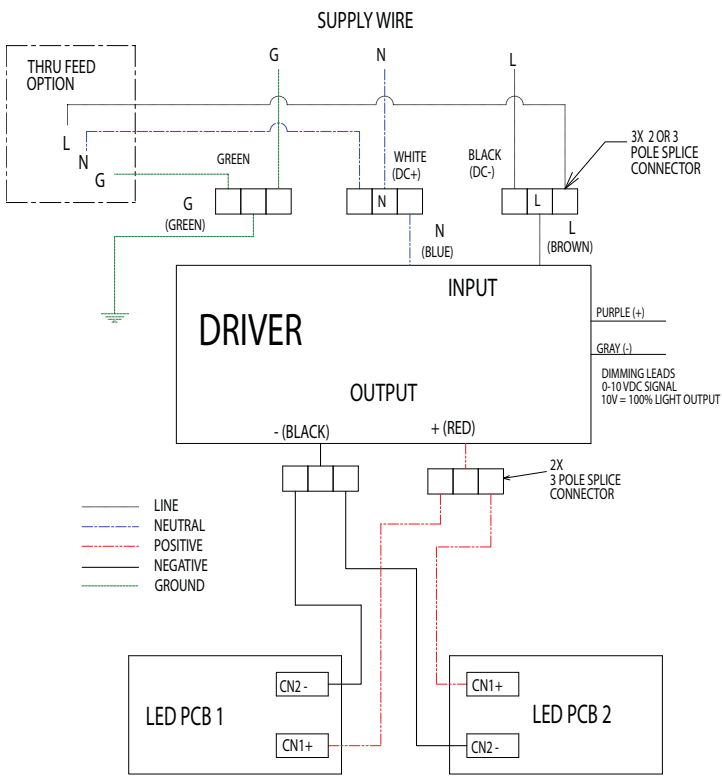

Figure 15
1. Open driver cover by loosening the four (4) #10-32 x .75" stainless steel cover screws (see Figure 12). All components in the fixture are pre-wired so only line in, neutral and ground need to be connected in the fixture to the lead wires (or terminals) per the wiring diagrams (see Figures 15 and 16) using methods that comply with all applicable codes. Terminate the equipment grounding conductor (green) first, the common (white) next, and finally, the line voltage (black) last. For DC voltage applications, connect the positive (+) lead to the white wire and the negative (-) lead to the black wire. Tighten all electrical connections. Note - Standard openings are 3/4" NPT.
3. Re-install the driver cover and tighten all four (4) cover mounting screws 32 in.-lbs. (3.6 N-m).
5. For the TF Suffix, use factory supplied fish line to pull through wire conductors for wiring to driver or to daisy chain multiple fixtures (maximum of five (5)). Refer to schematic for wiring. Only 3 conductors maximum are allowed through the hub closest to the driver and 3 conductors maximum are allowed through the hub farthest from the driver.